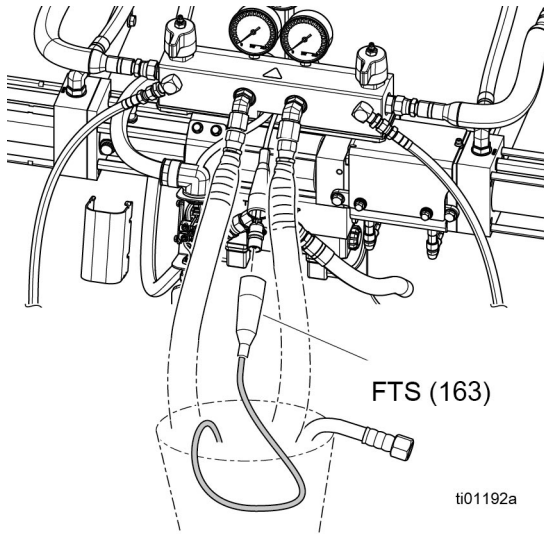

**FIG. 67: Heated Hose Electrical Junction Box**
2. Remove cover (71). See FIG. 67.
3. Disconnect system wires (139) from the proportioner.
4. Disconnect hose wires from terminal block (AS).